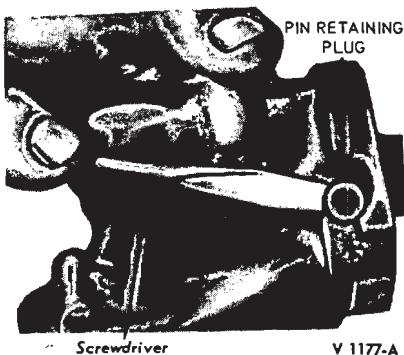

FIG. 5—Rocker Arm Pin Retaining Plug Removal
taining plug as shown in Fig. 5.
4. Scrape away the staking mark and remove the rocker arm pin retaining plug as shown in Fig. 5.